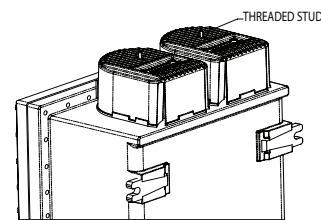

Figure 2
- Place shroud over explosionproof filters and threaded rod, with shroud opening facing back of enclosure. See Figure 2.